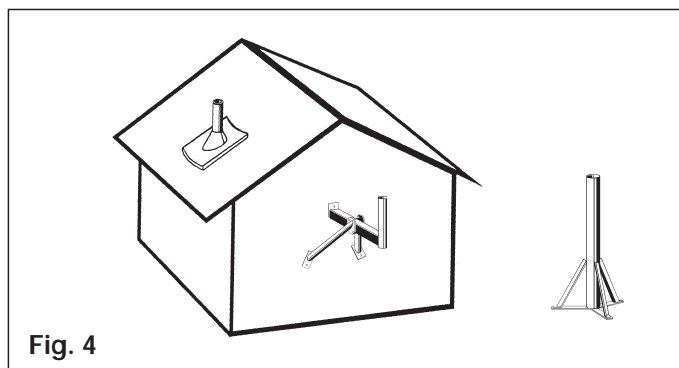

Fig. 4
5. Installation of the antenna (Fig. 4)